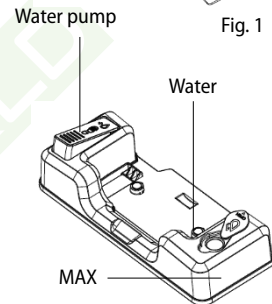

Fig. 2
2. Before use, loosen the water tank cap and fill the tank with distilled water (Fig. 2) Observe the maximum water level indicated by the MAX line on the side of the water tank (Fig. 2).
3. If you want to mop, moisten the cleaning cloth (17) by repeatedly pressing the water pump on the water tank. We recommend to moisten the cloth before use to ensure more efficient cleaning.